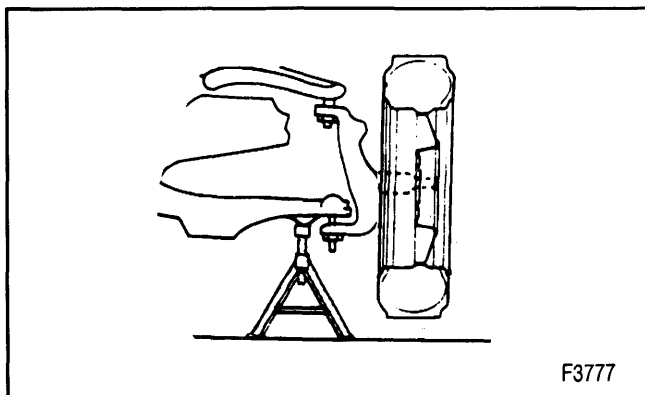

Figure 2—Supporting the Lower Control Arm
- Raise the vehicle and support it with suitable safety stands. Support the lower control arm with a floor stand or jack as far outboard as possible under the stabilizer shaft bracket (figure 2).